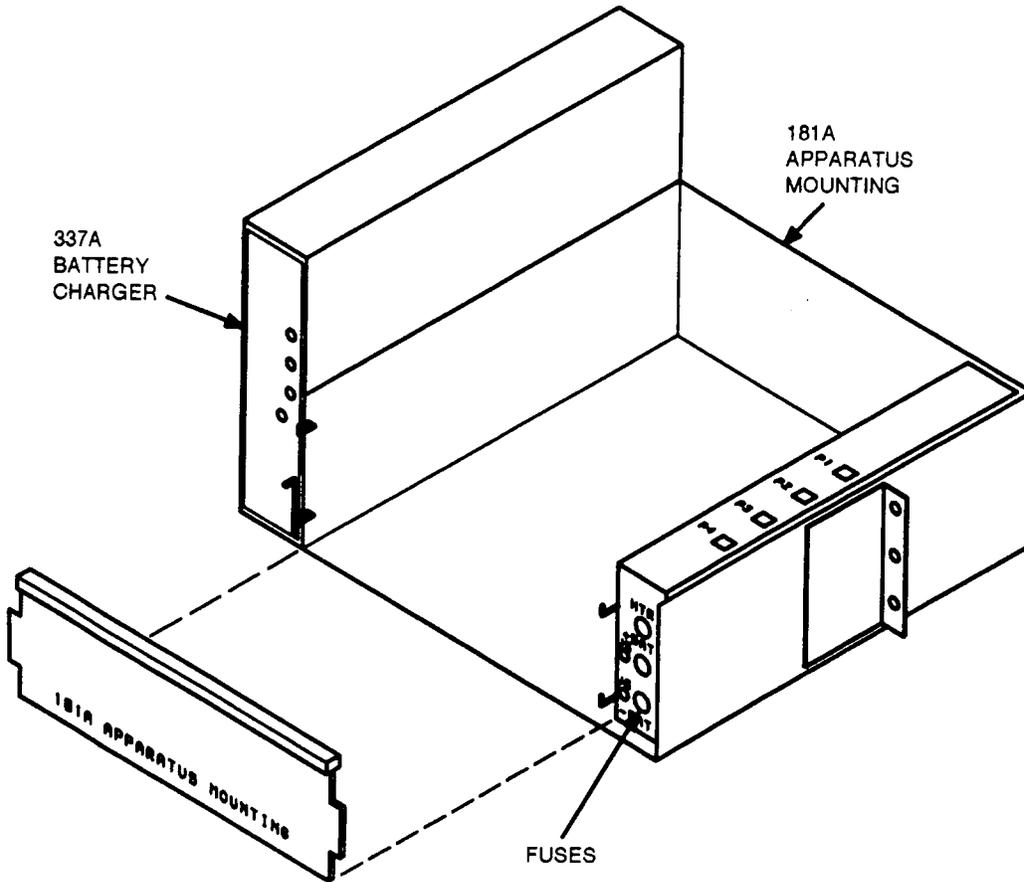

Figure 2 — Battery Shelf
3. Insert the **337A BATTERY CHARGER** into the slot located on the left side of the battery shelf (Figure 2) and press the **HIGH RATE CHG/ACTIVATE** button on the **BATTERY CHARGER**.